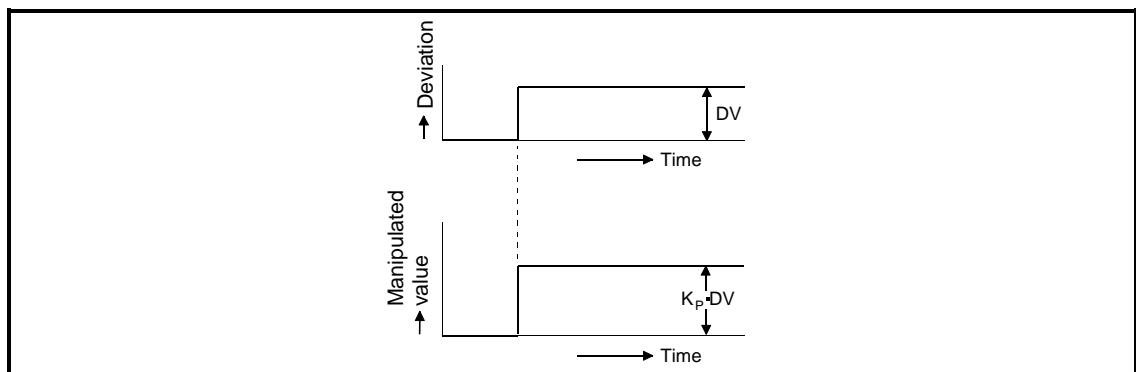

Fig. 1.3 Proportional operation when deviation is constant
- (3) The proportional operation when the deviation is a constant stepped response is shown in Fig. 1.3.